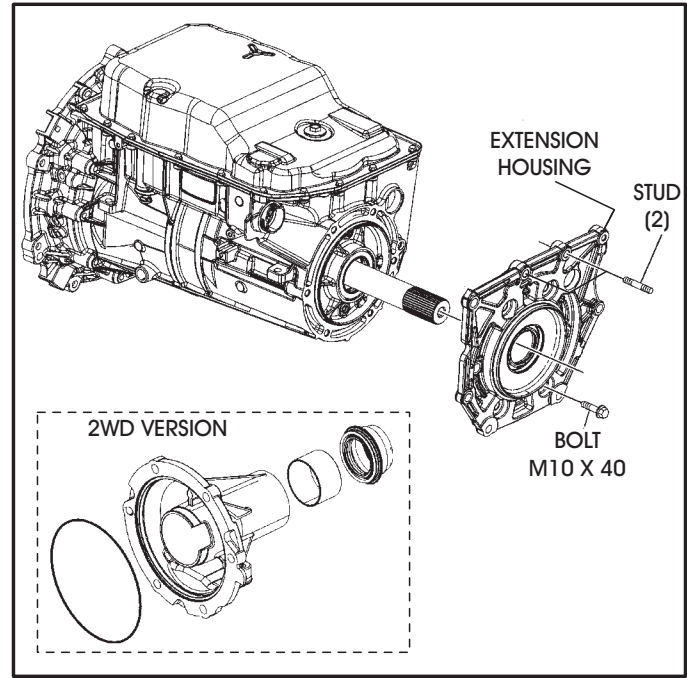

Figure 39
5. Rotate transmission so that bottom pan is facing up as shown in Figure 39.
6. Remove the six extension housing retaining bolts, as shown in Figure 39, and remove the extension housing.
7. The two wheel drive version is also shown in Figure 39.